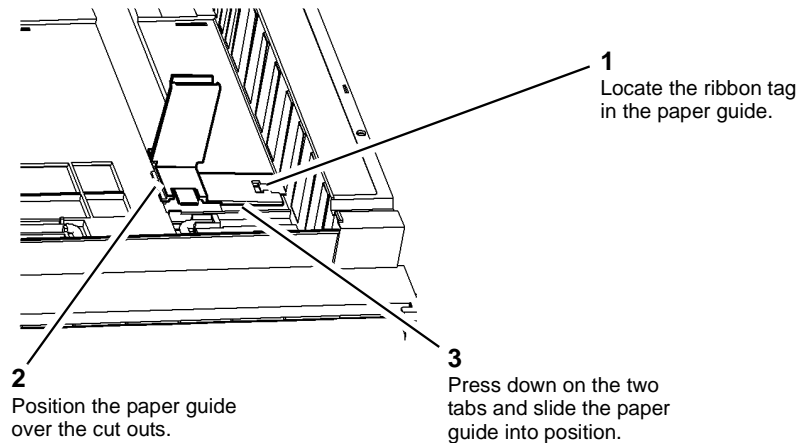

Figure 3 Paper length guide location
2. Locate the paper length guide correctly in the base of the tray, Figure 3.